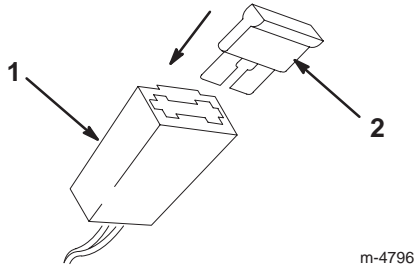

Figure 9
2. Install the fuse in the fuse holder as shown in Figure 9.